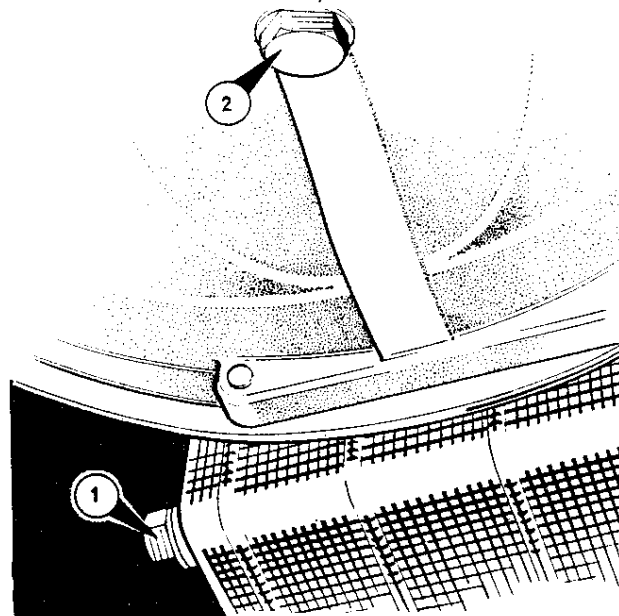

Figure 3 Sump and gearbox drain plugs
1. Place a suitable receptacle under the drain plug and unscrew the plug slowly until oil begins to escape. When the rate of flow lessens, remove the plug completely and allow the oil to drain for a few minutes. (**figure 3**) Care should be taken to ensure that no dirt or grit enters the sump whilst the plug is removed.